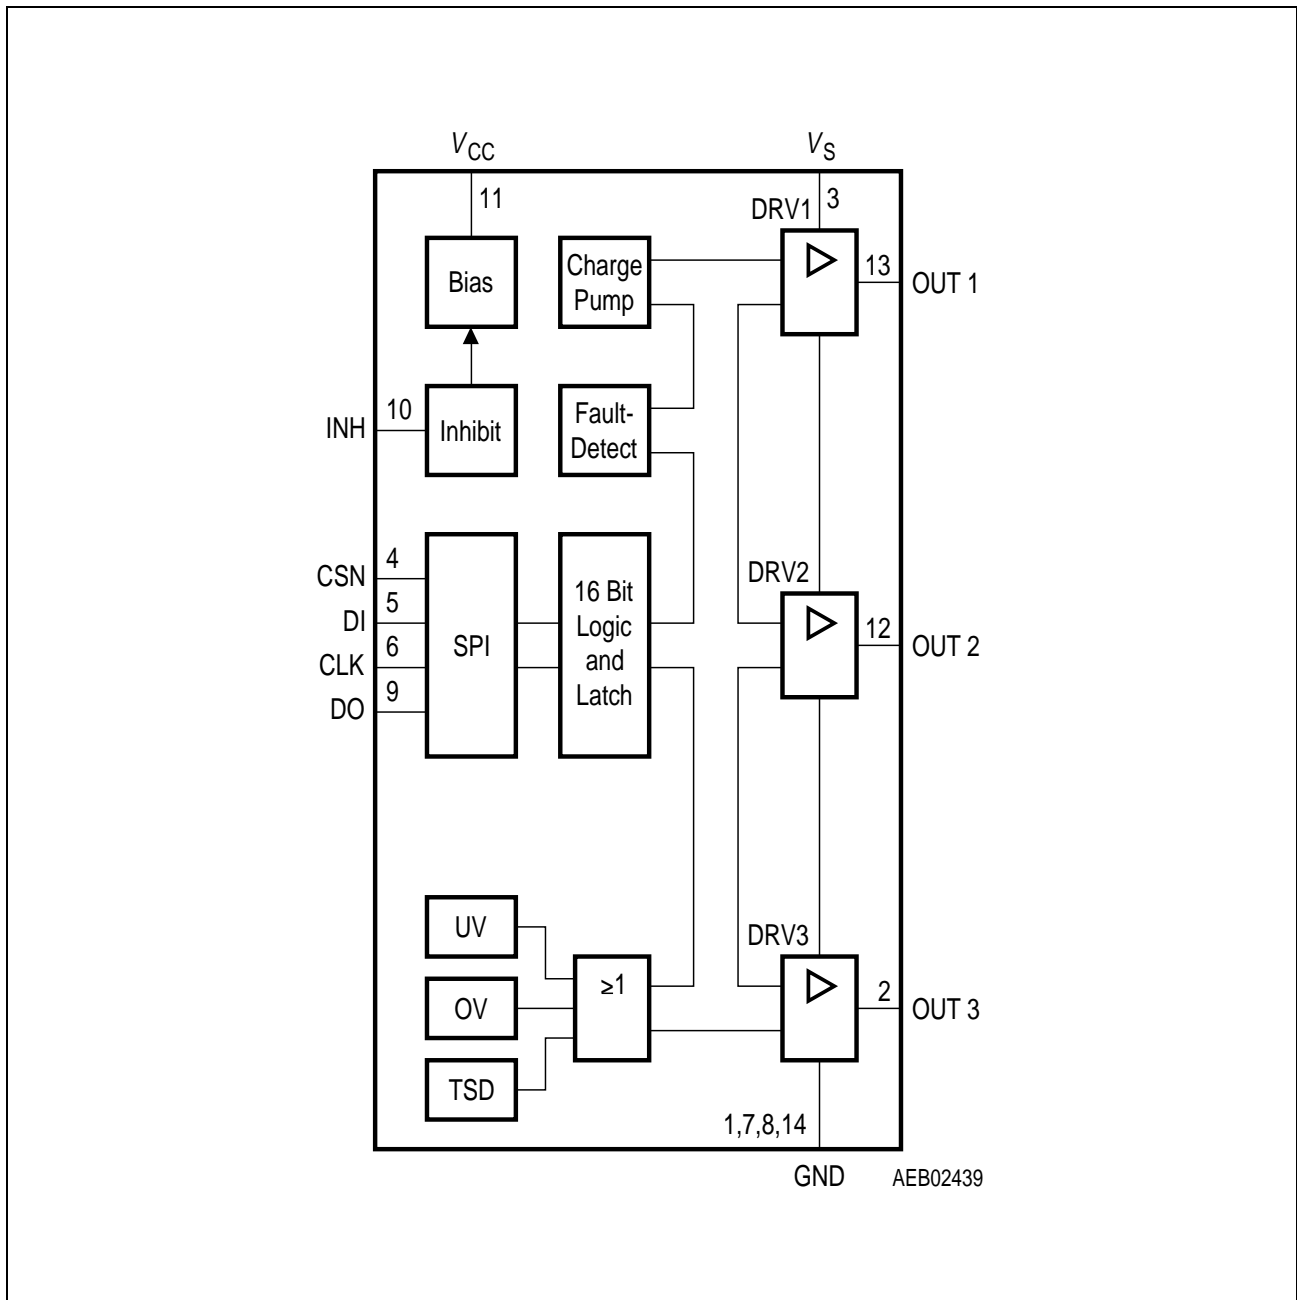

Figure 2 Block Diagram
Figure 2 shows a block schematic diagram of the module. There are 3 halfbridge drivers on the right-hand side. An HS driver and an LS driver are combined to form a halfbridge driver in each case. The drivers communicate via the internal data bus with the logic and the other control and monitoring functions: undervoltage (UV), overvoltage (OV), overtemperature (TSD), charge pump and fault detect.